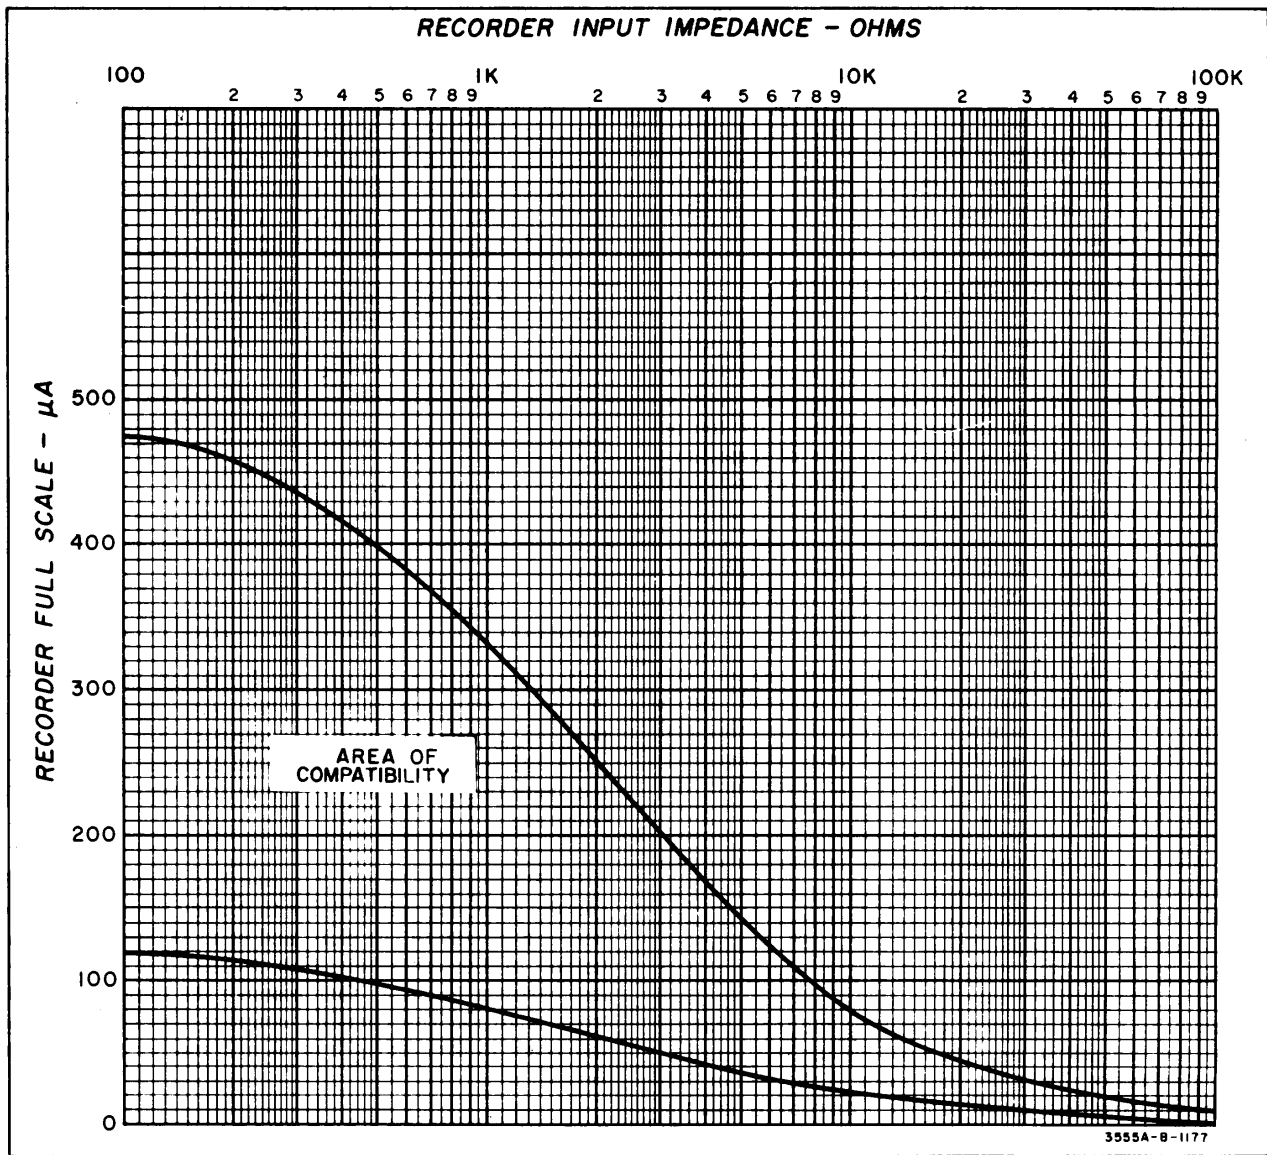

Figure 3-4. Recorder Compatibility Chart
3-27. The jack marked DC MON accepts a Western Electric 310 or 347 plug with connections to the tip and sleeve. The dc voltage supplied by this jack can be used to operate a dc potentiometric recorder requiring 1V or a dc galvanometric recorder requiring 500uA. The dc output is proportional to input level on any one range and not meter deflection since the meter is logarithmically scaled. Knowing the current required to drive the recorder full scale and the input impedance of the recorder, enter these numbers into the recorder compatibility chart Figure 3-4 to determine if the recorder is suitable for use with this set. If these numbers do not fall within the compatibility area, refer to Paragraph 3-41. Connect an input voltage to the set and adjust the RANGE switch until a near full scale indication is observed on the meter. Connect the recorder plug with the tip negative to the DC MON jack and adjust the input level until the meter indicates 0dBm. Mark this point, which should be near full scale, on the recorder paper. Decrease the input level until the meter indicates -1dBm. Mark this point on the recorder paper. Continue until the recorder has been calibrated for each major dBm division on the meter. The actual input level to the set as
3-42. If an external recorder is to be used to monitor the dc output of the 3555B, the Recorder Compatibility graph, Figure 3-4 should be consulted to determine if your particular recorder can be used. Recorders with input characteristics that fall below the compatibility area can be used provided a suitable resistor is used between the 3555B dc output and the recorder input.
3-44. Recorders with input characteristics that fall above the compatibility area in Figure 3-4 cannot be used to monitor the 3555B dc output since full scale deflection of the recorder cannot be accomplished by the 3555B.
1.	Determine the input impedance and full scale sensitivity of your recorder and refer to paragraph 3-41 and Figure 3-4 to determine if your recorder is suitable for use with this set. The dc voltage supplied by the DC MON 310 jack will drive a dc potentiometric recorder requiring 1V or a dc galvanometric recorder requiring 500uA.